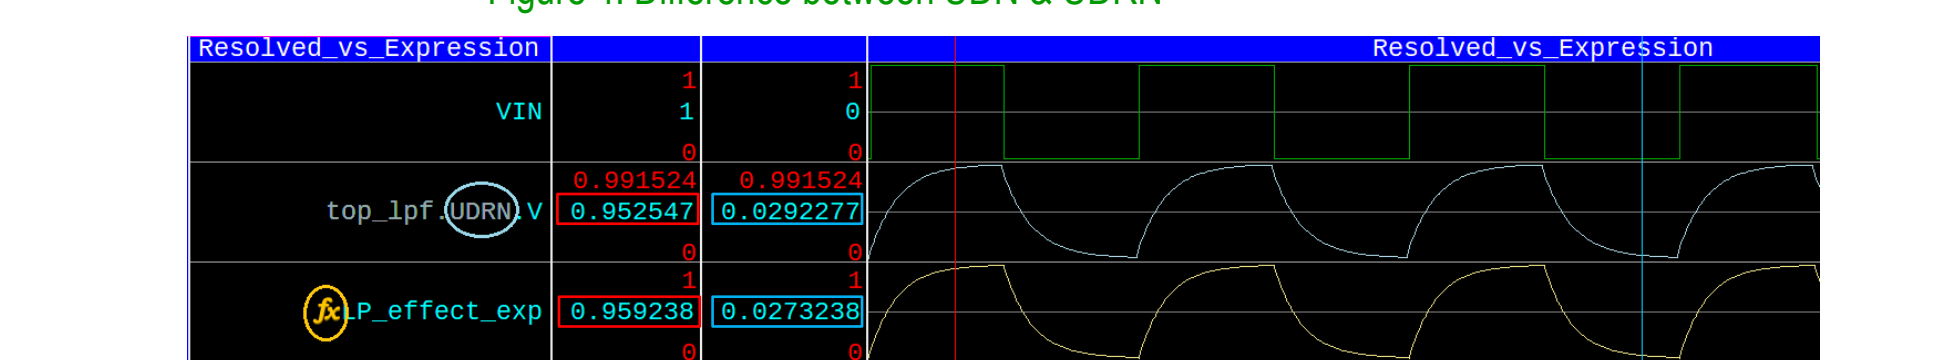

Figure 5: Values of LP filtering effect from UDRN and created expression
- Have a strong builder expression that can construct complex functions equivalent to the functionality of the resolution function because this helps in comparing the outputs from the resolution functions to those generated from the builder expression as shown in Figure 5.